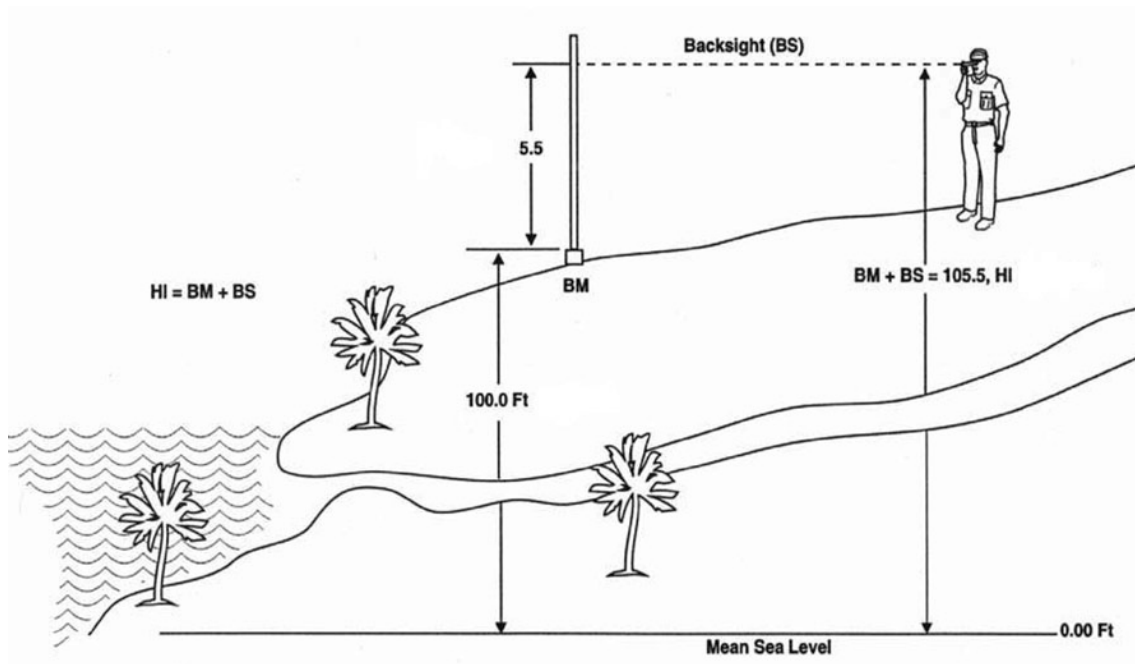

Figure 3-9. Backsight reading to determine instrument height.
To determine the height (HI) of the leveling instrument, add the BM elevation to the BS reading from the level rod. This formula is written as $HI = BM + BS$. An example is shown in figure 3-9. The bench mark elevation is 100.00 feet and the backsight is 5.5 feet. The bench mark elevation added to the backsight reading gives an instrument height of 105.5 feet. Since the BS reading is added to the elevation of the BM to obtain the instrument height, it is usually called a plus (+) sight.